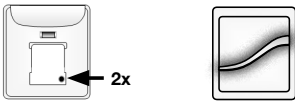

Fig. 2
2. Using a paper clip or a similar item, press and release the programming button located on the back side of the new remote twice in rapid succession (2 taps) The LED on the remote will flash alternately amber and green. (Fig. 2)